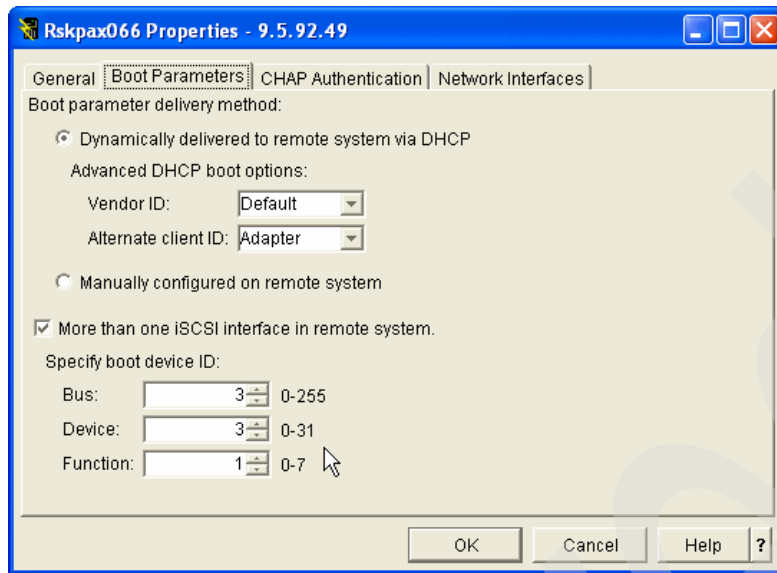

Figure 9-71 Changing the boot device ID (boot port) in the RMTSYS configuration object
5. Select the **Boot Parameters** tab. You see a window similar to the one displayed in Figure 9-71 on page 444.
Note: Specifying the boot device ID information in the RMTSYS configuration object is in fact optional because these values are overridden by the values set in the CTRL-Q utility. However, a future enhancement to System i™ Integrated Server Support will allow you to specify values for the boot device ID through the panel shown in Figure 9-71 and override the CTRL-Q settings. You will therefore not need to run the Ctrl-Q utility to specify the boot device ID.